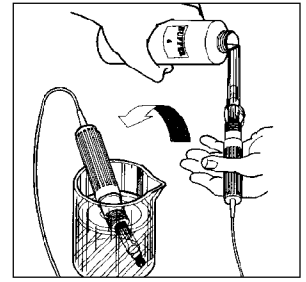

FIGURE 21
5. Rinse pH sensor with low buffer solution then place sensor in a clean container. Pour enough low buffer solution into the container to cover the sensor's tip (approximately 1") (see fig. 21.)
7. Discard the low buffer solution. Rinse pH sensor with mid buffer solution then place sensor in a clean container. Pour enough mid buffer solution into the container to cover the sensor's tip (see fig. 21.)
9. Discard the mid buffer solution. Rinse pH sensor with high buffer solution then place sensor in a clean container. Pour enough high buffer solution into the container to cover the sensor's tip (approximately 1") (see fig. 21.)